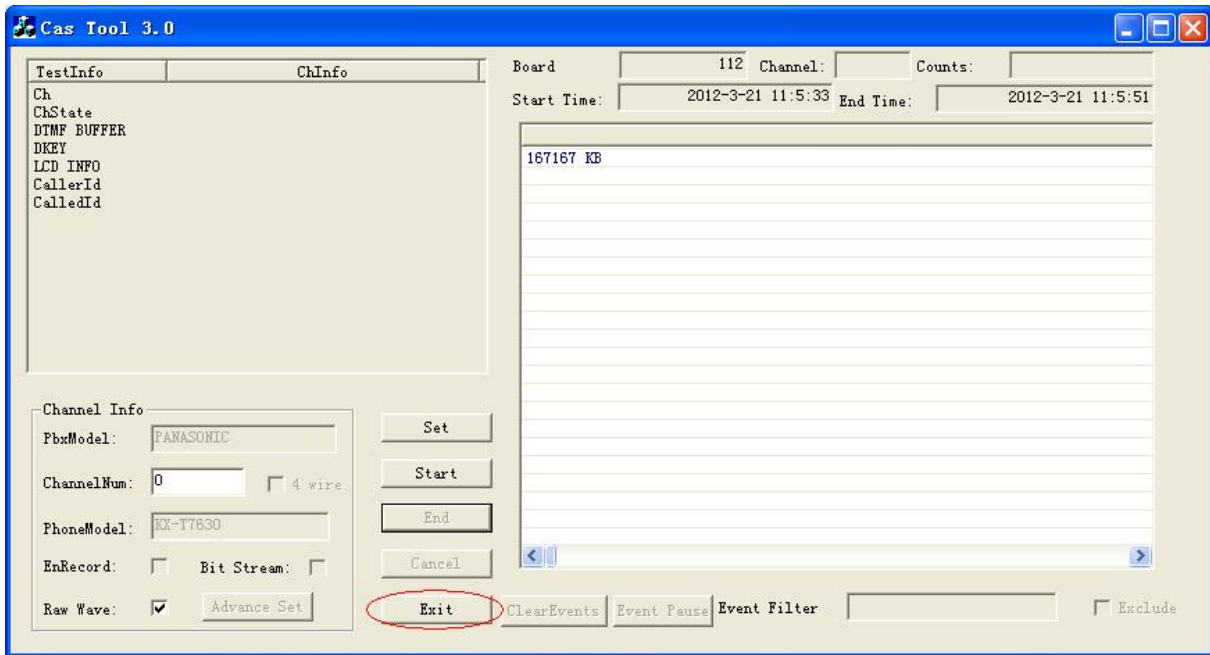

Figure 2-29
Step 9: Click on the 'Exit' button to exit CasTool.exe as shown in Figure 2-29.